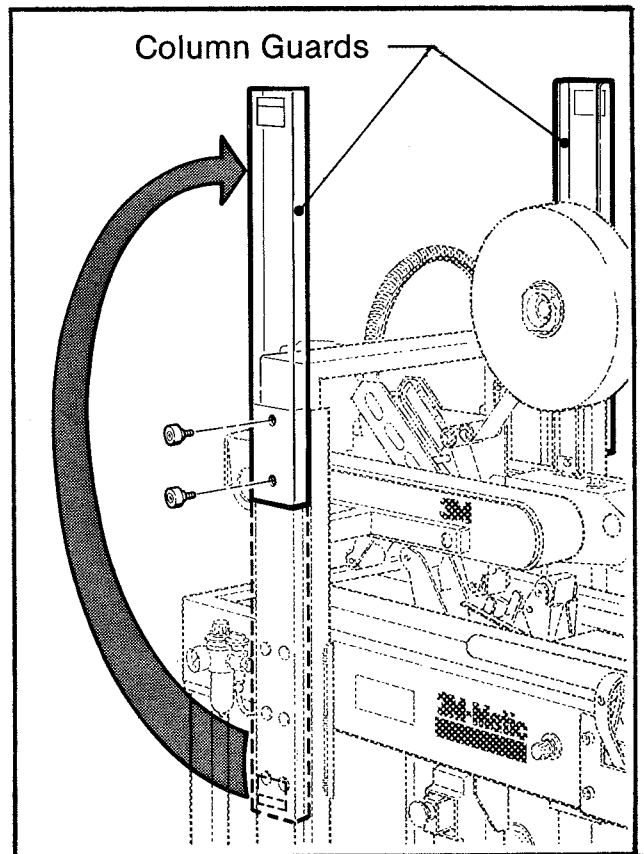

Figure 3 - Column Guards
**Column Guards** Refer to Figure 3.